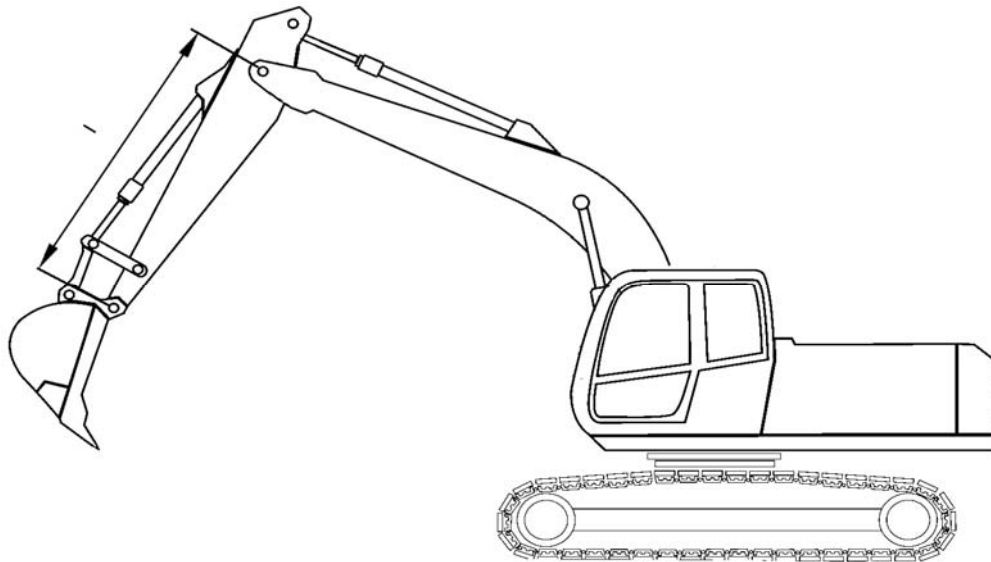

Figure 24. Stick length
- Enter stick length (Figure 24). Length is the distance between pins.